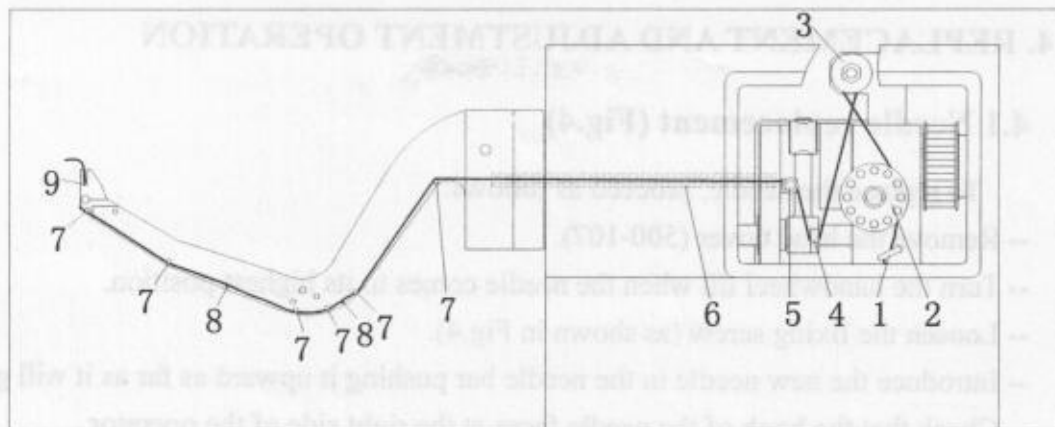

Fig 2
3.2 Horn thread preparation (Fig.2)
- Threading the horn thread by the path indicated in Fig.2
- (1) Threading rod (2) Tighten wheel (3) Brake thread device (4) Take-up lever
(5) Threading wheel (6) Threading shaft (7) Threading wheel (8) Little rod
(9) Horn pipe
3.3 Horn thread tension adjustment (Fig.2)
- Turn the knurled washer on the (2)tighten wheel as shown on the Fig.2 to adjust the tension of the horn thread.